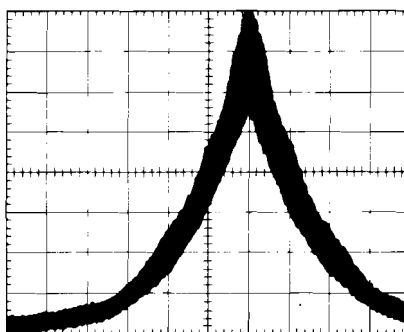

Figure A5-4. 4.2099 and 4.210 GHz Waveform on Spectrum Analyzer
- g. On A2 Frequency Control, set RANGE MHz switch to .5 – 1300. At bottom of A1 Source/Converter, disconnect cable W9 from A9J1. Connect HP Model 8555A Spectrum Analyzer to the end of cable W9. “4.2099 GHz” output. Set Spectrum Analyzer for 3 kHz bandwidth. Adjust “Wn” A1A15A1R11 control for the least peaking of the noise sidebands (See Figure A5-4.)
- f. At bottom of A1 Source/Converter, disconnect cable W8 from A11J1. Connect HP Model 8555A Spectrum Analyzer to the end of cable W8, "4.210 GHz" output. Set Spectrum Analyzer for 3 kHz bandwidth. Adjust "Wn" R7 control for the least peaking of noise sidebands. (See Figure A5-4.)